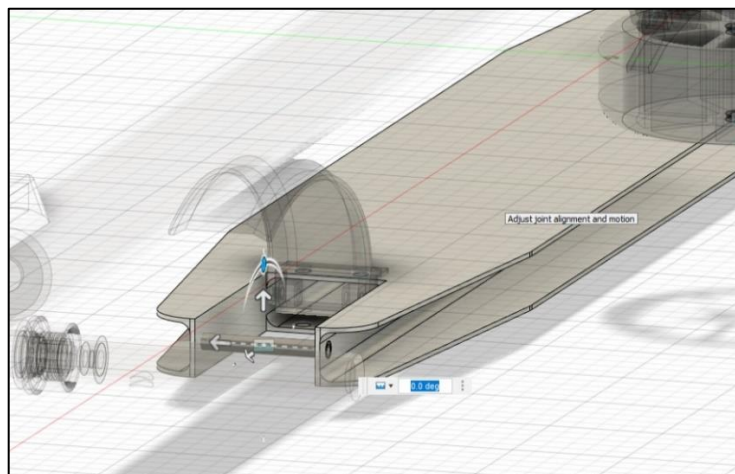

Figure 26. Jointing the center axis of the shaft to the shaft of the wheel.
5. Use the join function again to assemble the rear wheel. Set mode to “Between two faces” and select the central axis of the shaft of the rear wheel as “Component 1”. Next, select the center axis of the back shaft of the deck as “Component 2”. Set motion to “Rigid”. (Figure 26)